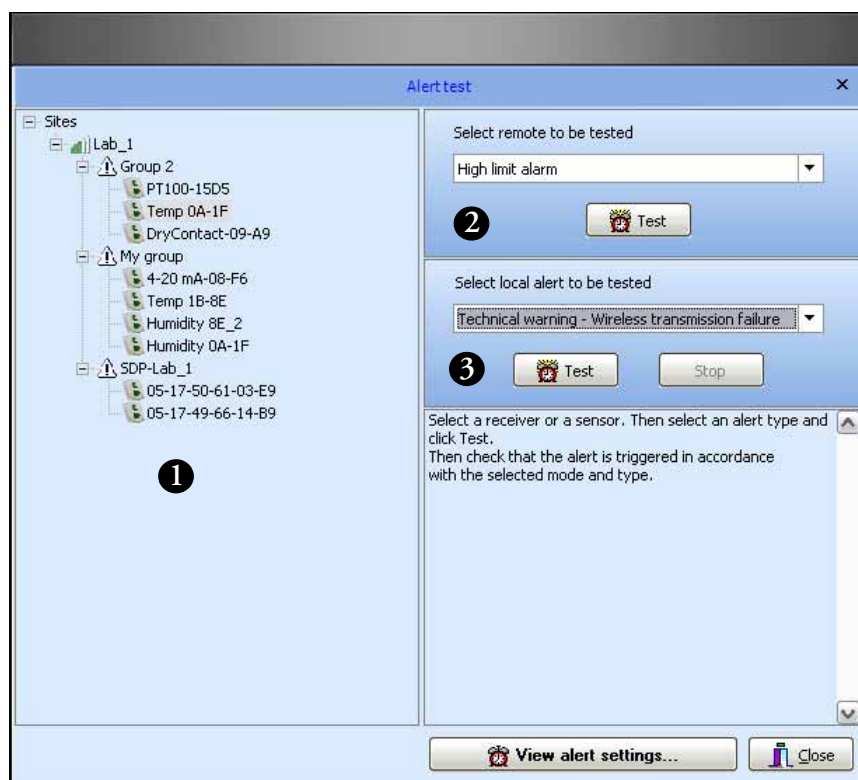

Figure 94. Alarm test screen
3. Select a sensor in the tree structure (#1 in Figure 94).